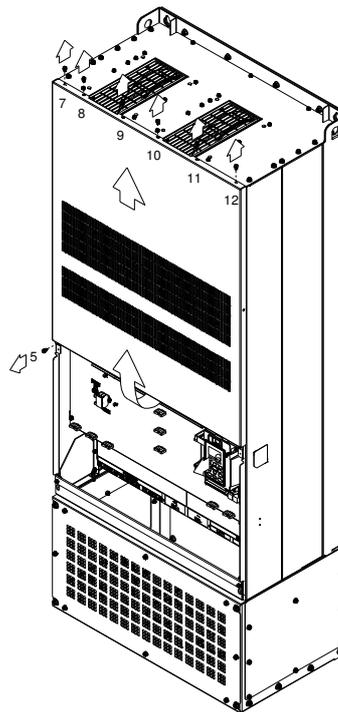

Figure 2
(2) Loosen the screw and remove the top cover (figure 2).